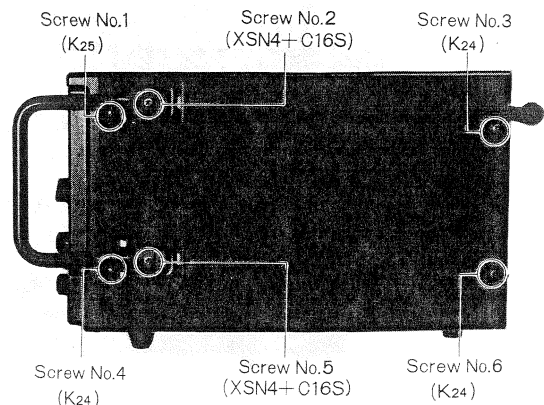

Fig. 2
2. Remove the six (6) screws (nos. 1~6) for the handle and cabinet cover, as shown in fig. 2.